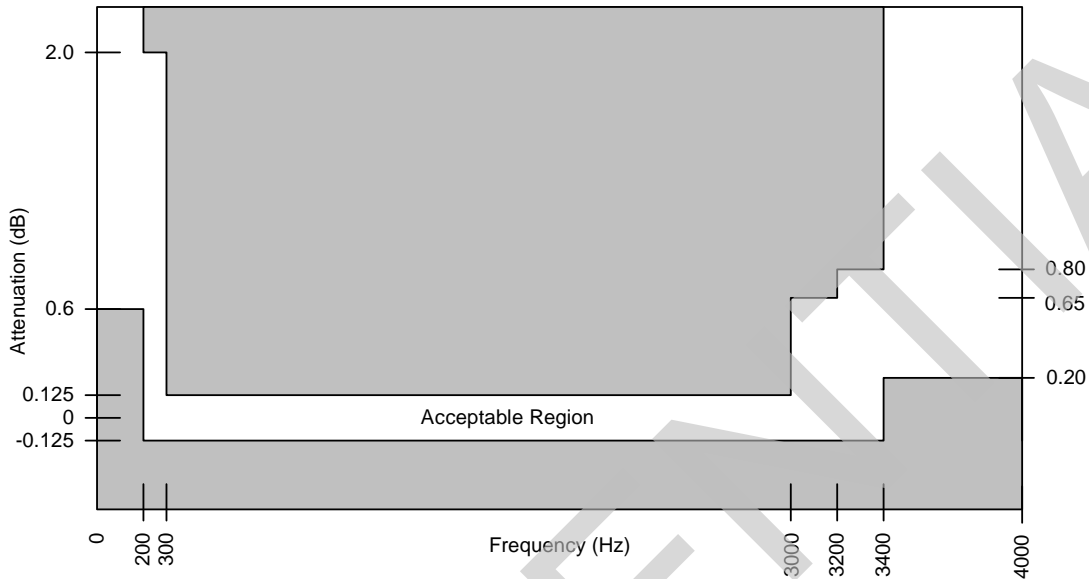
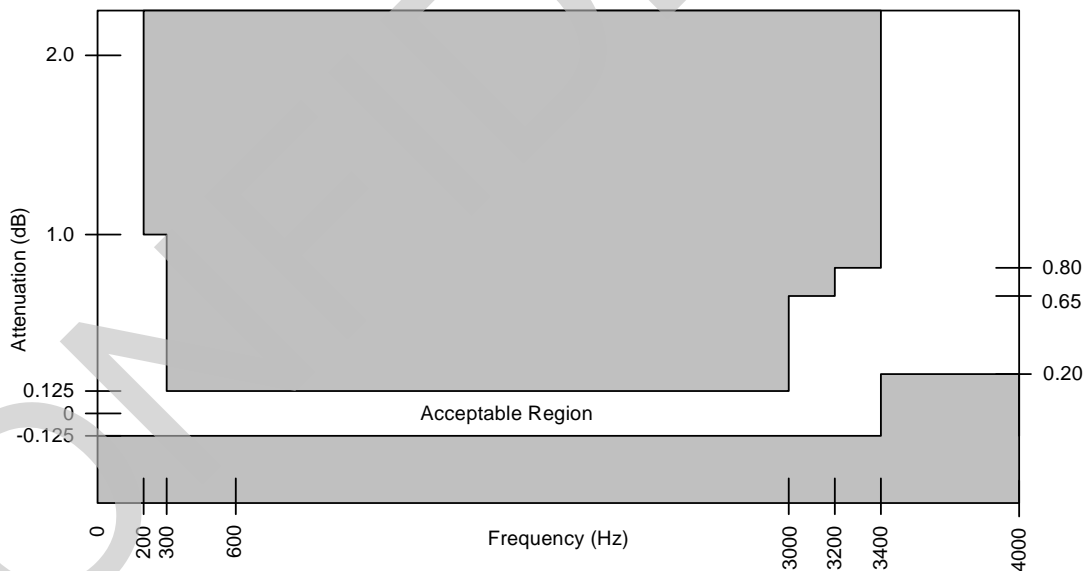

Figure 22 - Transmit (A to D) Path Attenuation vs. Frequency
Figure 23 - Receive (D to A) Path Attenuation vs. Frequency
3. See Figure 22 and Figure 23 on page 39.
The signal attenuation in either path is nominally independent of the frequency. The deviations from nominal attenuation will stay within the limits shown in Figure 22 and Figure 23. The reference frequency is 1014 Hz and the signal level is -10 dBm0.